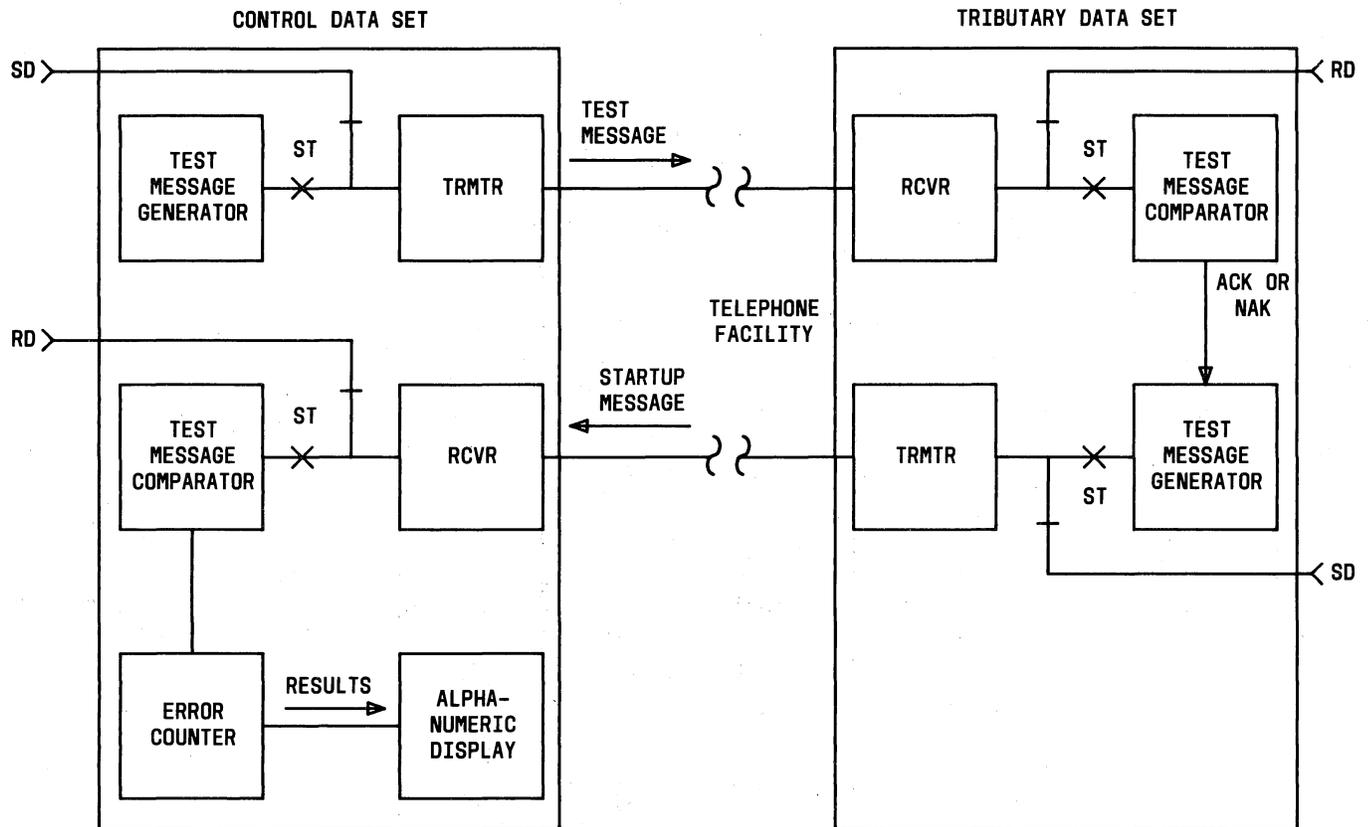

Fig. 21—End-to-End Test
**3.66** This test (Fig. 21) is performed between the control and a selected tributary data set. The control data set generates a message and transmits it on the primary channel to the selected tributary data set. The tributary data set receives the message, checks it for errors, and transmits a good copy back to the control data set. (This message also contains an error indication if one was generated by the original transmission.) The control data set checks the new message for errors and records this information.